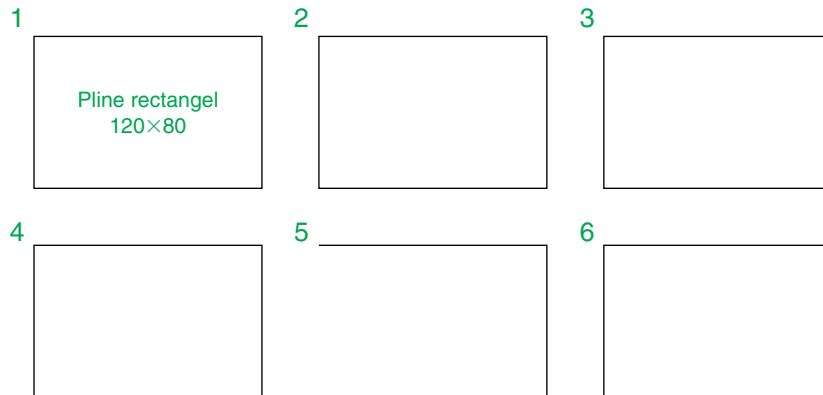

Fig. 3.41 Examples – **Edit Polyline** – the plines to be edited
1. With the **Polyline** tool construct the outlines **1** to **6** of Fig. 3.41.